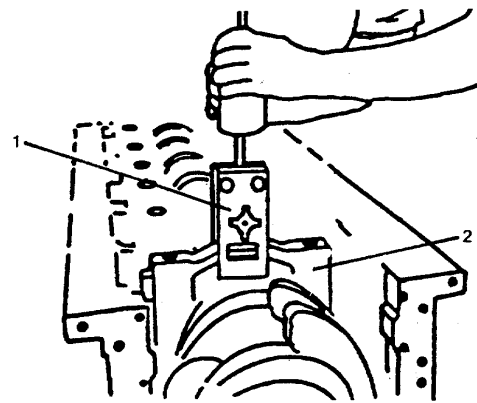

FIGURE 4-48. Main Bearing Removal/Installation.
- b. Loosen the main bearing capscrews (3).
- c. Use main bearing cap puller (1, FIG. 4-48) and remove the caps (2).